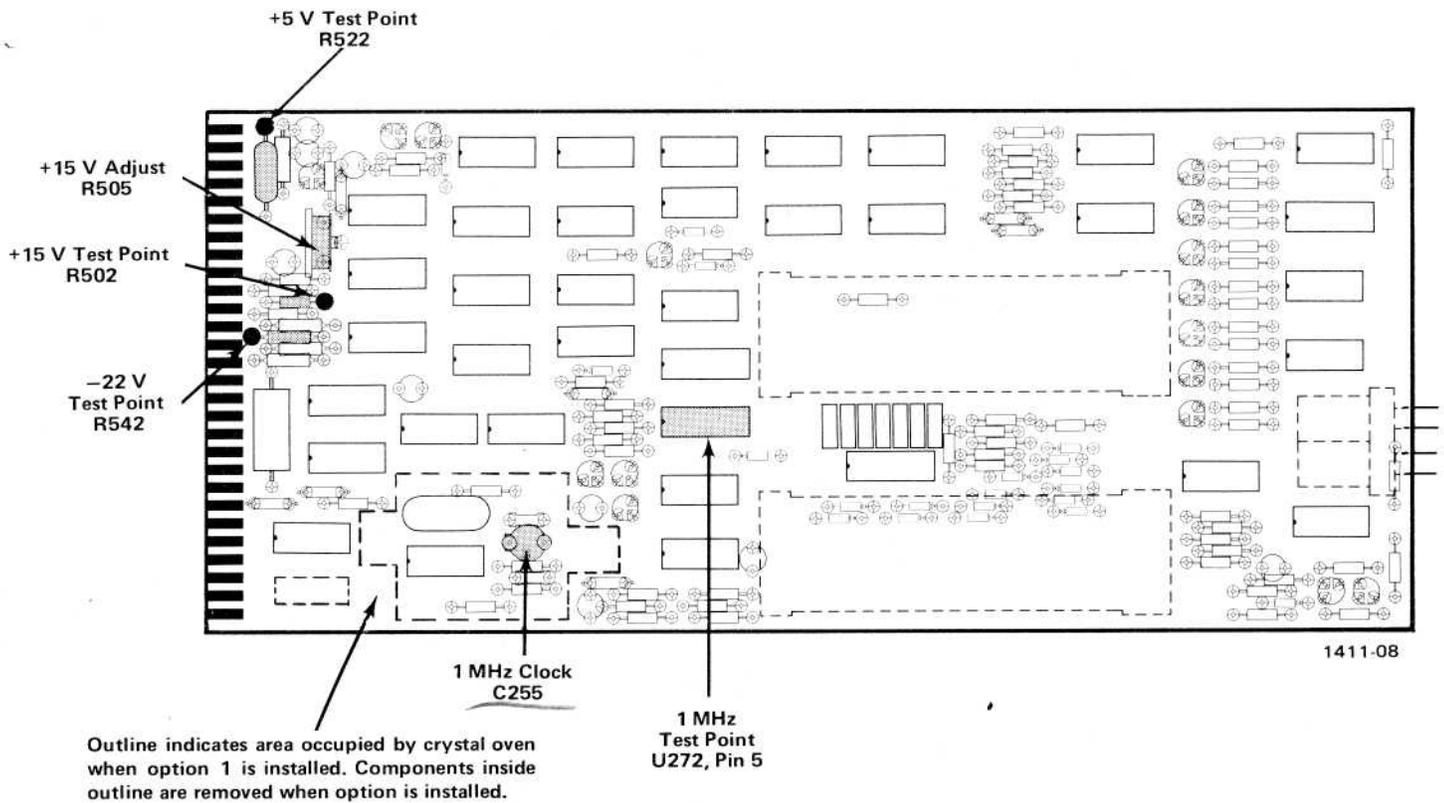

Fig. 3-1. Location of power supply test points and adjustment.
a. Connect the DM 501 LO test lead to the DC 503 chassis ground (function of C502 and R506). Connect the DM 501 HI test lead to the DC 503 +15 V test point (the junction of R502, C502, and R504, see Fig. 3-1).